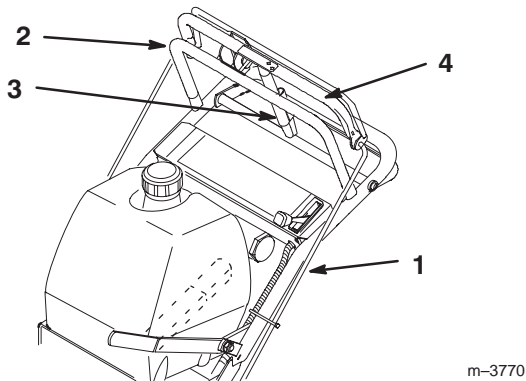

Figure 6
3. Check the gap between upper control bar and fixed bar with wheel drive fully engaged. Gap should be approximately 1 to 1-1/4 in. (25–32 mm) (Fig. 6).